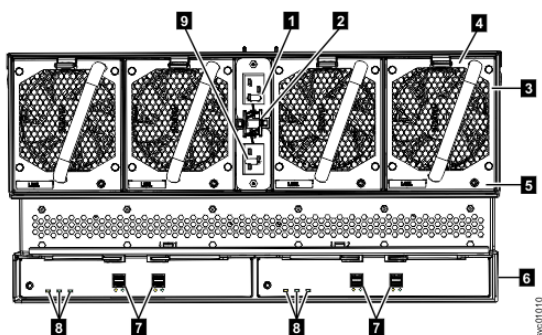
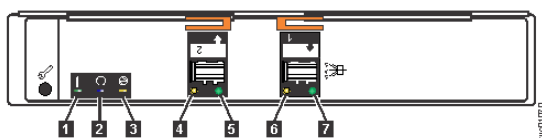

Figure 158. LEDs on the back of the expansion enclosure
Figure 159. LEDs on the back of the expansion canister
Table 64 on page 205 explains the function and status that is indicated by each of the LEDs. The power cords for each PSU are accessible from the rear of the expansion enclosure (1), as shown in Figure 158 on page 207.
Figure 158 on page 207 shows the rear view of a expansion enclosure. LEDs on the rear of the enclosure provide information about each fan module, each expansion canister, and SAS links.
The expansion enclosure has four fans. Each fan has one LED; for example, Figure 158 on page 207 shows the location of the LED (5) for fan number four. When a fan is operating normally, the LED is not lit. If a fault is detected, the amber LED is lit.
As Figure 158 on page 207 also shows, the expansion enclosure contains two expansion canisters. Each expansion canister contains its own set of LEDs, as shown in Figure 159 on page 207. The LEDs provide status information about the expansion canister itself and the SAS connections.